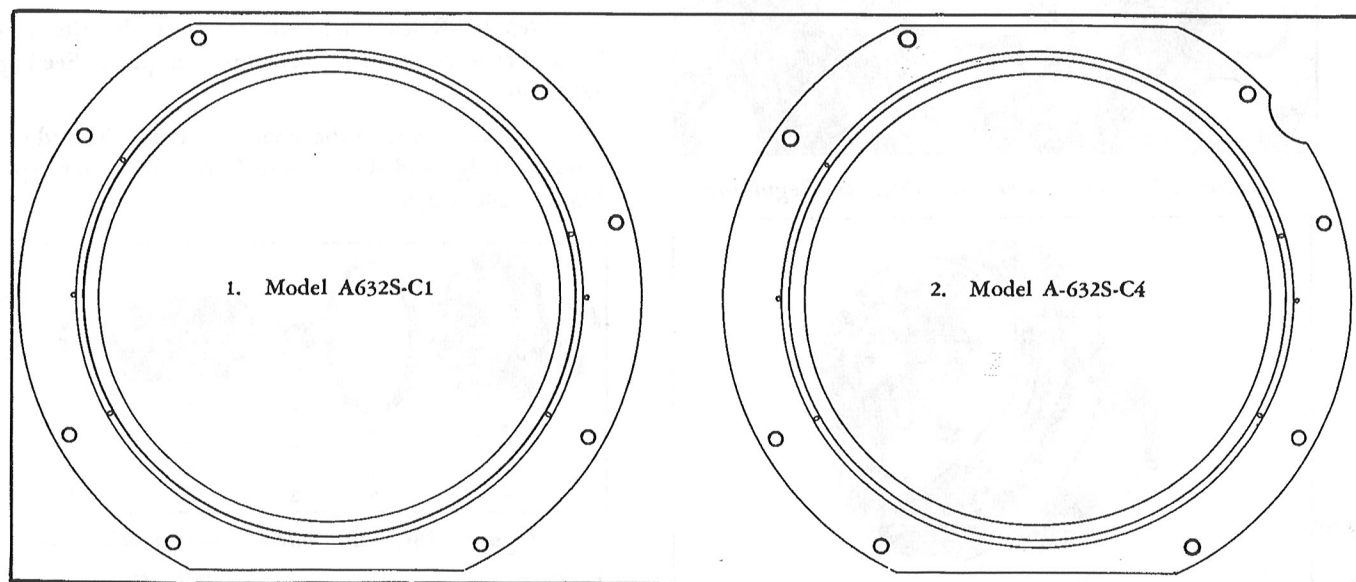

Figure 227—Comparison of Regulator Housing Bearings
e. The *regulator housing bearing* for model A632S-C4 has been machined to provide clearance for the pressure control valve body inasmuch as there is no pressure control valve filter assembly on this model. See Figure 227. Therefore, the housing bearing on model A632S-C4 may be used on model A632S-C1 regulators, but the housing bearing on model A632S-C1 regulators may *not* be used on model A632S-C4 regulator housings.